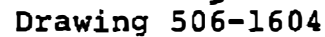

Figure 5-14. CV-8 A and B lateral sweep output and lateral sweep power supply
- 5.5.1 Lateral Sweep Output (Figure 5-14)